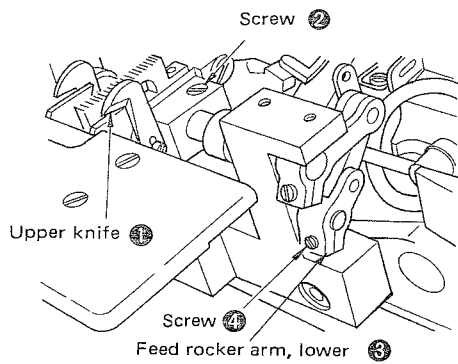

Fig. IV-4-1
Once the desired amount of movement of the upper knife ① has been obtained, tighten up the screw ④ in the lower feed rod. At this time, take care not to allow feed rocker arm, lower ③ to move to the left or right. (See Fig. IV-4-1)